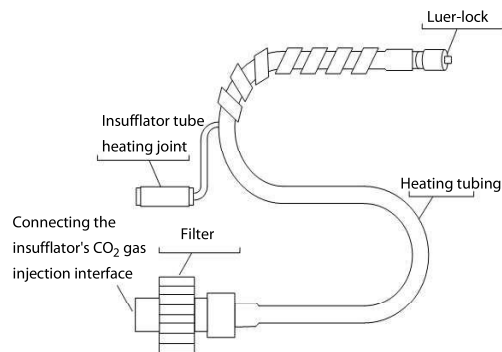

Figure 4-10 Installed heating insufflator tube (using filter)
2. Please install the filter between the insufflator tube and the insufflator's CO₂ gas injection interface. As shown in Figure 4-10.